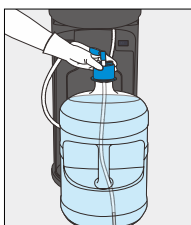

Figure 20
7. Slide the bottle adaptor over the neck of the bottle and push down to secure (Figure 20)